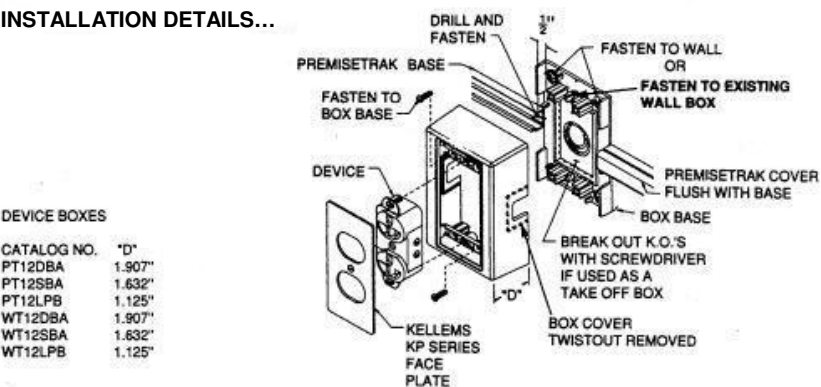

FIG. 2
4. Install PREMISETRAK base section abutting device box base (fig. 2). Align centering line of raceway with centering tab on device box base. Continue along run, installing PREMISETRAK base, device and/or fixture bases in sequence, as in appropriate installation details.
10. Wire and install devices as in fig. 2. Wire and install fixtures *after* fixture box covers have been installed.